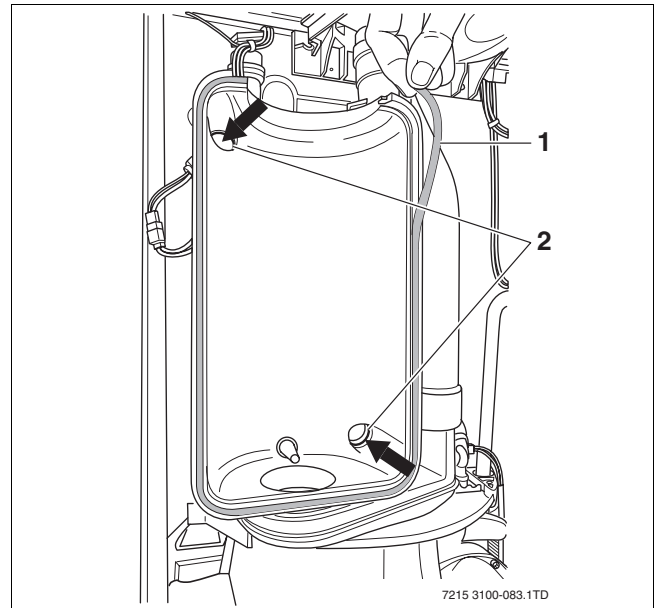

Fig. 71 Replace the seal of the heat exchanger
- Replace the seal of the heat exchanger (→ fig. 71, item 1). The seal must be placed without tension and cut at the proper length at the end of it.
- Replace the 4 o-rings (→ fig. 71, item 2), 2 pieces at each side.